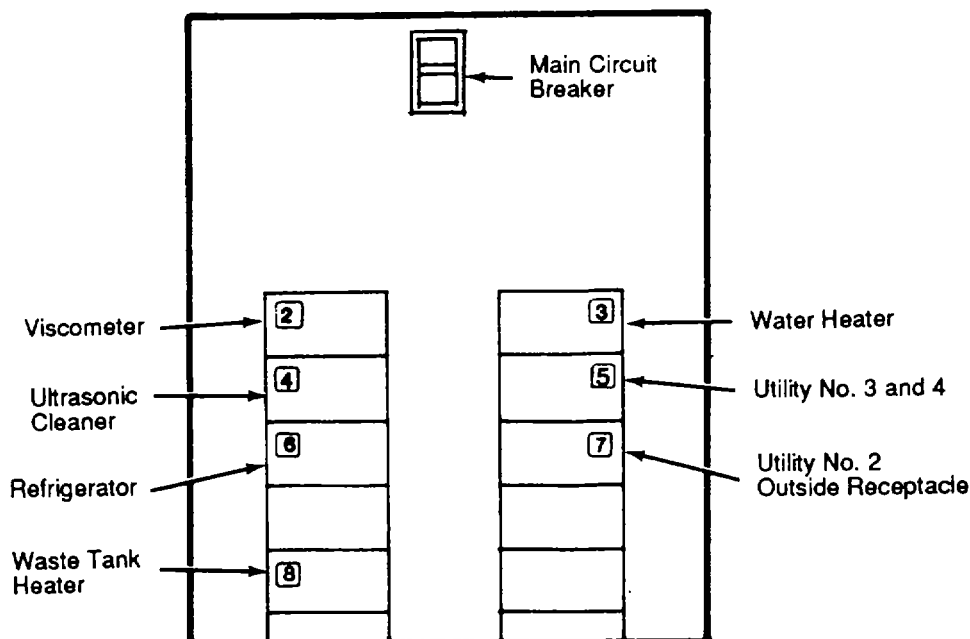

Figure 2-7. Power Panel Number 2
(8) Enter the receiving room located at the rear of the trailer and reset main circuit breaker on Power Panel number 2 (Figure 2-7) by turning it to the "ON" position.